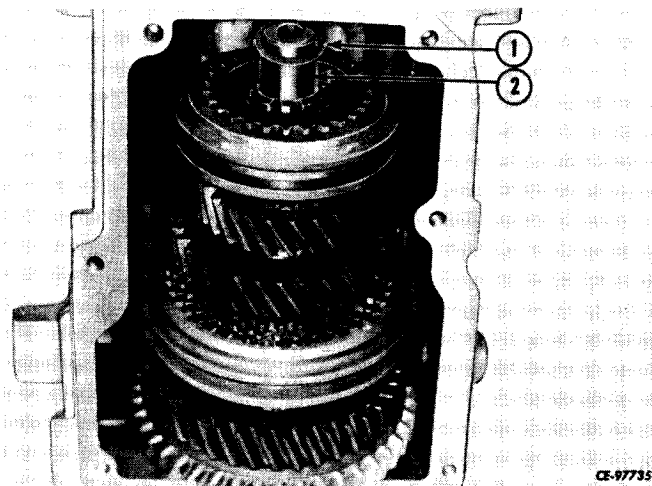

Figure 4-34
Remove bearing spacer (1, Fig. 4-34) and remove transmission gear assembly (2) from transmission housing.